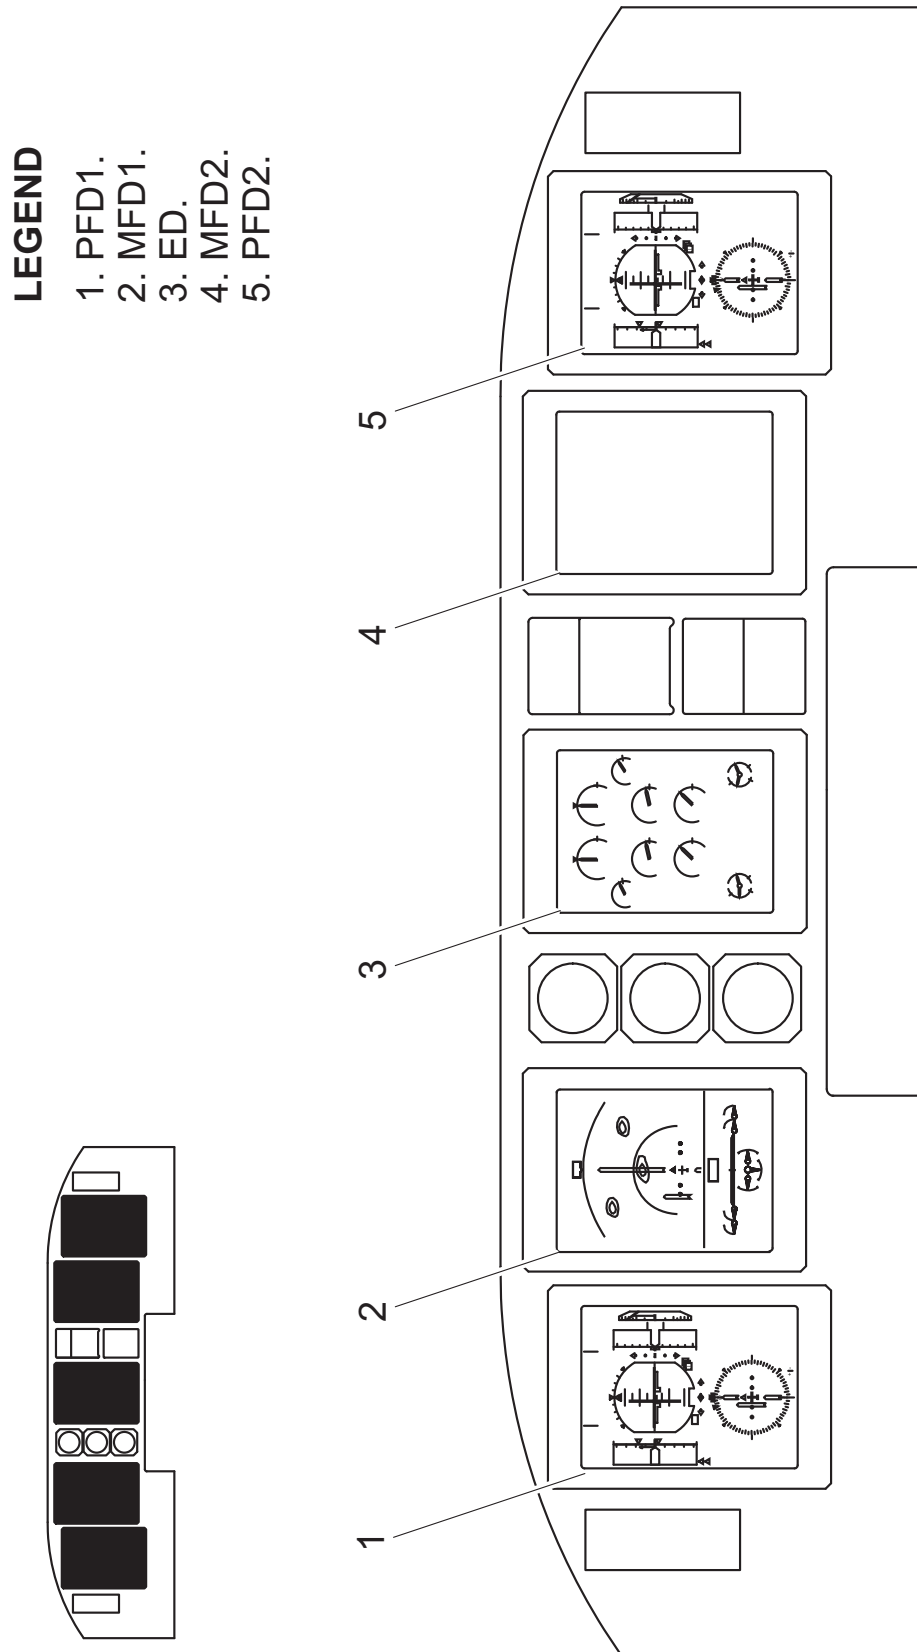

Figure 12.12-30 EIS Displays
The EIS is composed of five (Figure 12.12-30) identical liquid crystal Display Units (DU):
- Engine and System Integrated Display (ED)